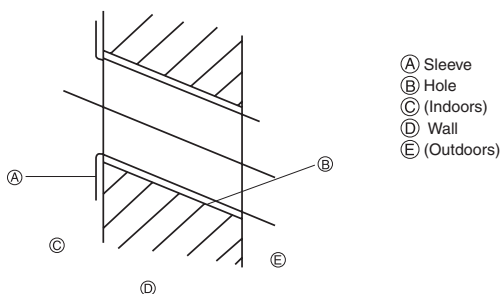

Fig. 3-2
- (X) Wall mounting fixture
- (Y) Hole centre
- (Z) Align the scale with the line.
- (V) Insert scale.
3.1.2. Drilling the piping hole (Fig. 3-2)